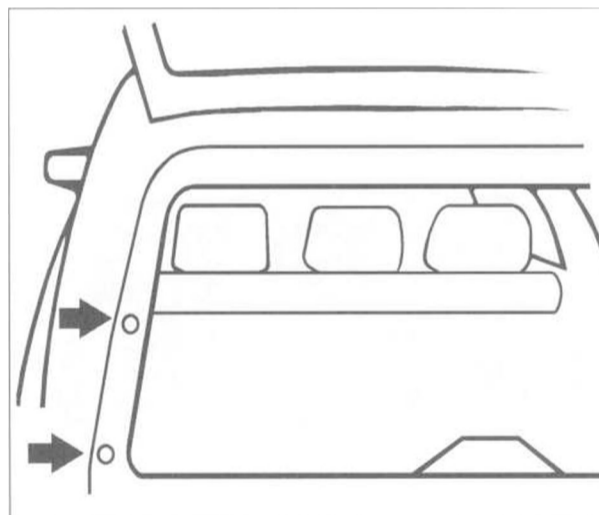

Fig. 5. Rubber pads (arrows) on trim cover. Pry out pads and remove screws. Lift trim off from above.
2. Remove rubber pads on left and right sides of trim cover. Remove screws from below pads. See Fig. 5. Remove trim cover from body by lifting upwards.